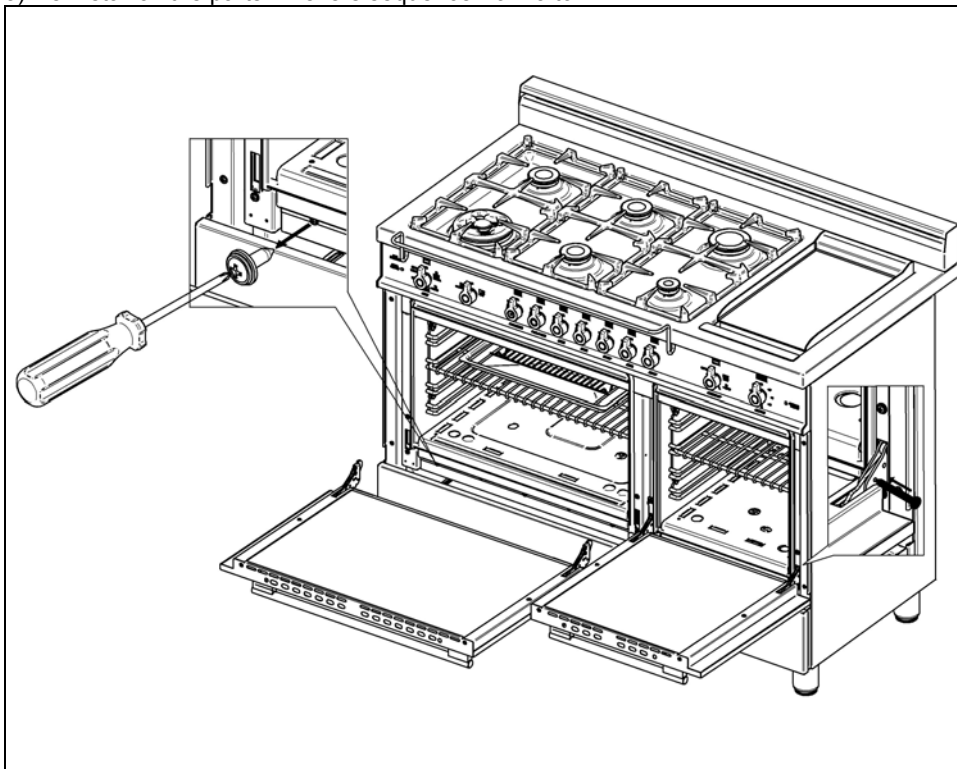

fig.9
- 1) Remove the oven door (Fig. 9)
- 2) Remove the lower frontal cavity gasket and the enamelled cavity base plate (Fig. 9)